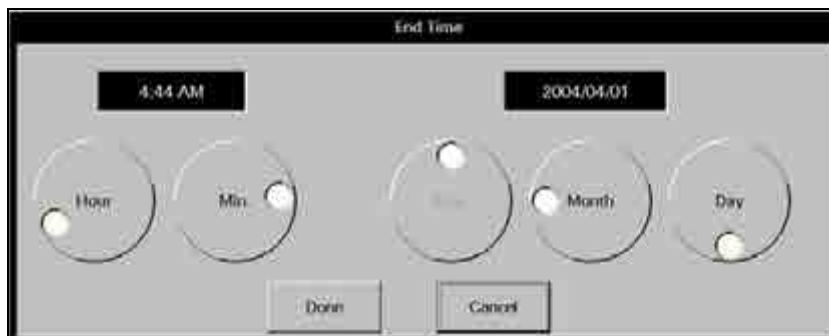

FIGURE 7-17 End Time Dialog Box
1. Select the End Time text box. The End Time dialog box (shown in FIGURE 7-17) is displayed.